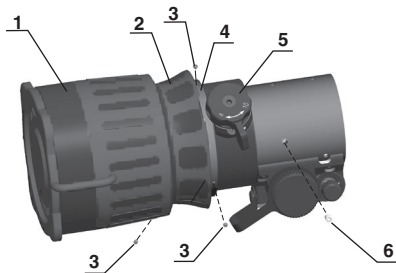

FIGURE 3-8. OBJECTIVE LENS FOCUSING
- Loosen three fixing screws (Figure 3-8, 3) and rotate thrust ring (Figure 3-8, 4) one turn counterclockwise.
- Turn the focus knob (Figure 3-8, 5) of the sight to “infinity” position according the picture on the knob.
- Rotate the objective lens (Figure 3-8, 1) to achieve sharp image of collimator pattern.
- Rotate the thrust ring (Figure 3-8, 2) clockwise up to the stop and tighten it.
- Remove fixing screws (Figure 3-8, 3) one by one, drill dimples through the holes in the ring, apply small amount of thread locker and secure the thrust ring with fixing screws.
- Put the sight onto the mounting rail, switch it on and rotate focus ring (Figure 3-8, 4) to achieve sharp image.
- Remove the purge screw (Figure 3-8, 7).